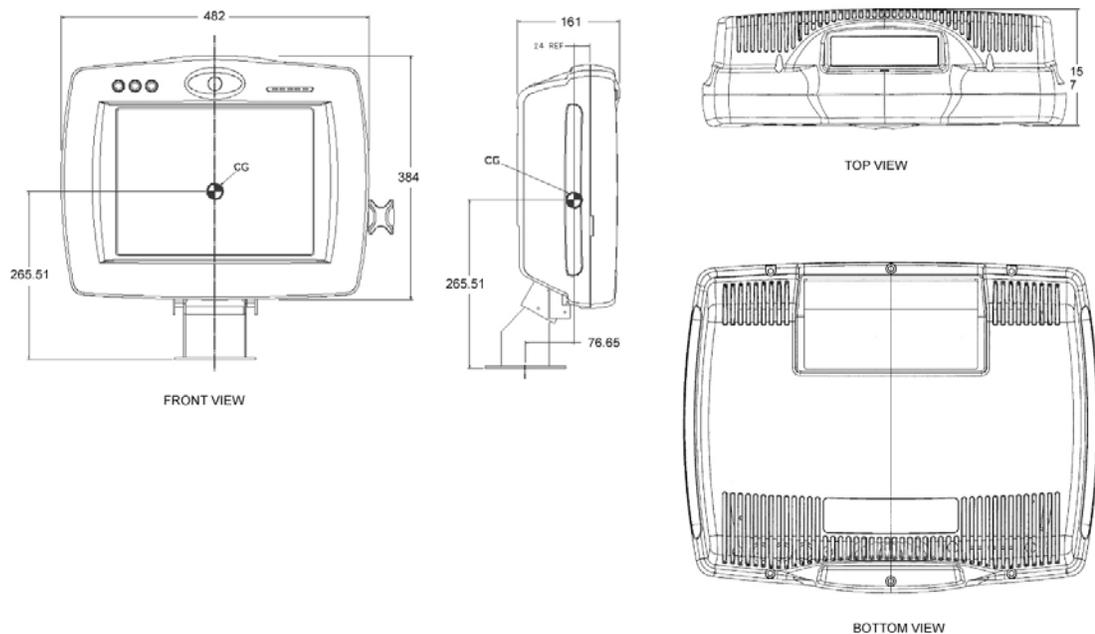
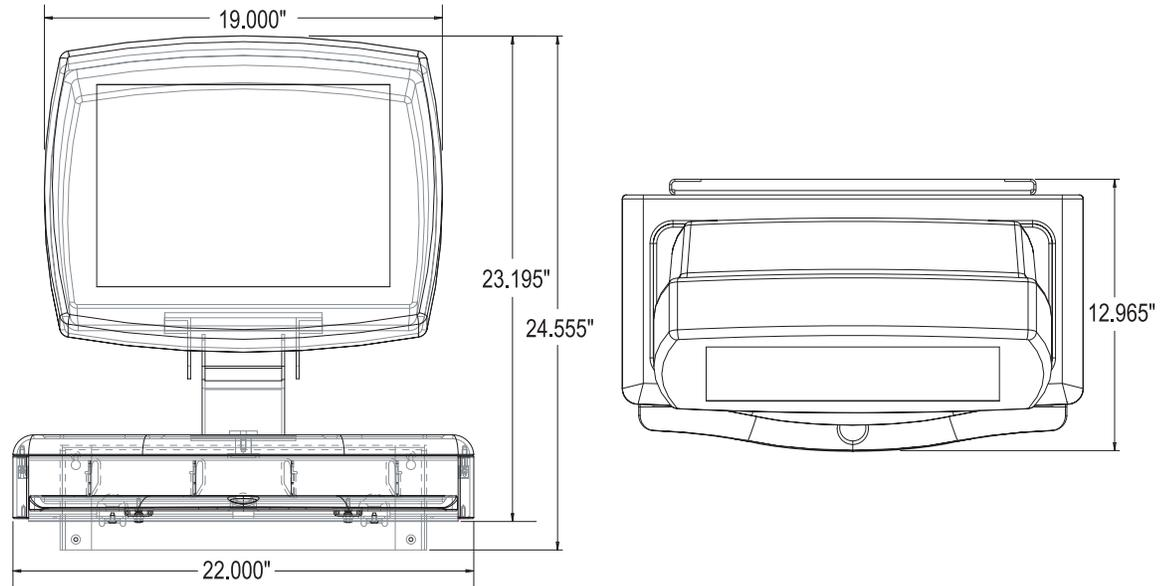
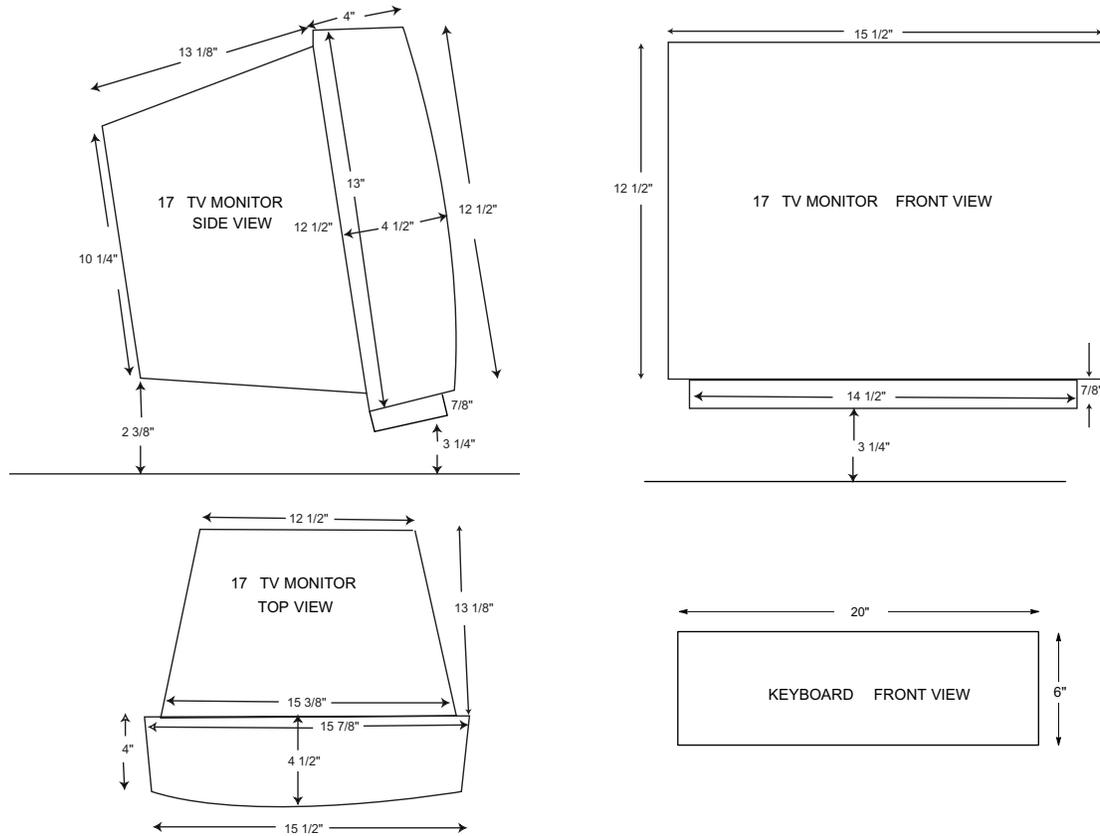

Figure 3-2 Interactive User Interface (IUI) Dimensions
Figure 3-3 IUI Keyboard Garage Dimensions
Figure 3-5 17" Monitor (Control Booth) Dimensions
- Operator Console (IUI) - Figure 3-2, Figure 3-3 and Figure 3-5